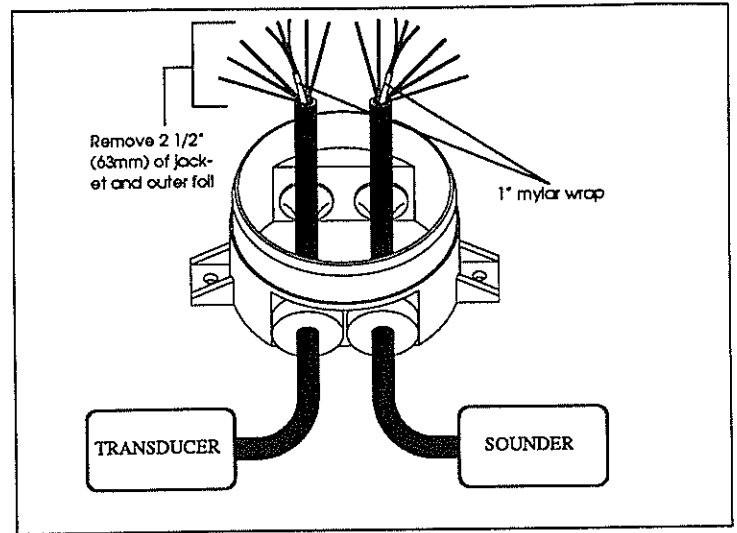

FIGURE 3. REMOVING THE CABLE JACKET AND MYLAR WRAP
1. WITHOUT CUTTING INTO OUTER BARE WIRE STRANDS (system ground), carefully remove 2-1/2" (64 mm) of cable jacket and outer foil from the two ends of the existing cable you cut in Step #1 above. See Figure 3.